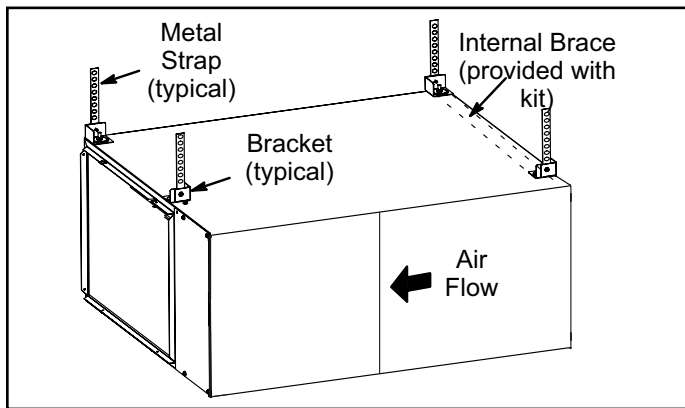
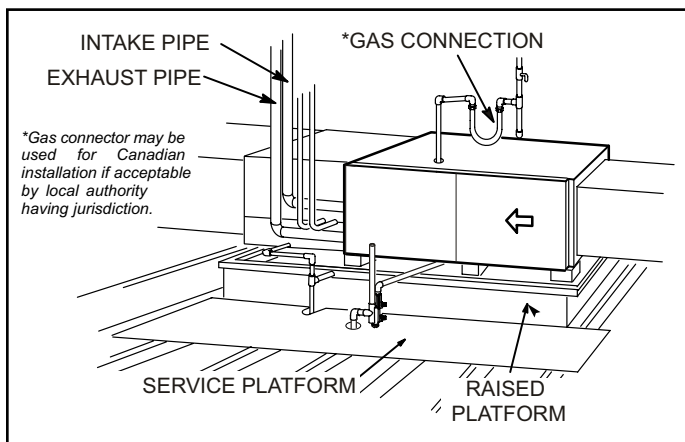

Figure 18. Horizontal Suspension Kit
Figure 19. Platform Installation
This furnace may be installed in either an attic or a crawlspace. Either suspend the furnace from roof rafters or floor joists, as shown in Figure 18, or install the furnace on a platform, as shown in Figure 19. A horizontal suspension kit (51W10) may be ordered from Allied Air or use equivalent.
2. Construct a raised wooden frame and cover frame with a plywood sheet. If unit is installed above finished space, fabricate an auxiliary drain pan to be installed under unit. Set unit in drain pan as shown in Figure 19. Leave 8 inches for service clearance below unit for condensate trap.